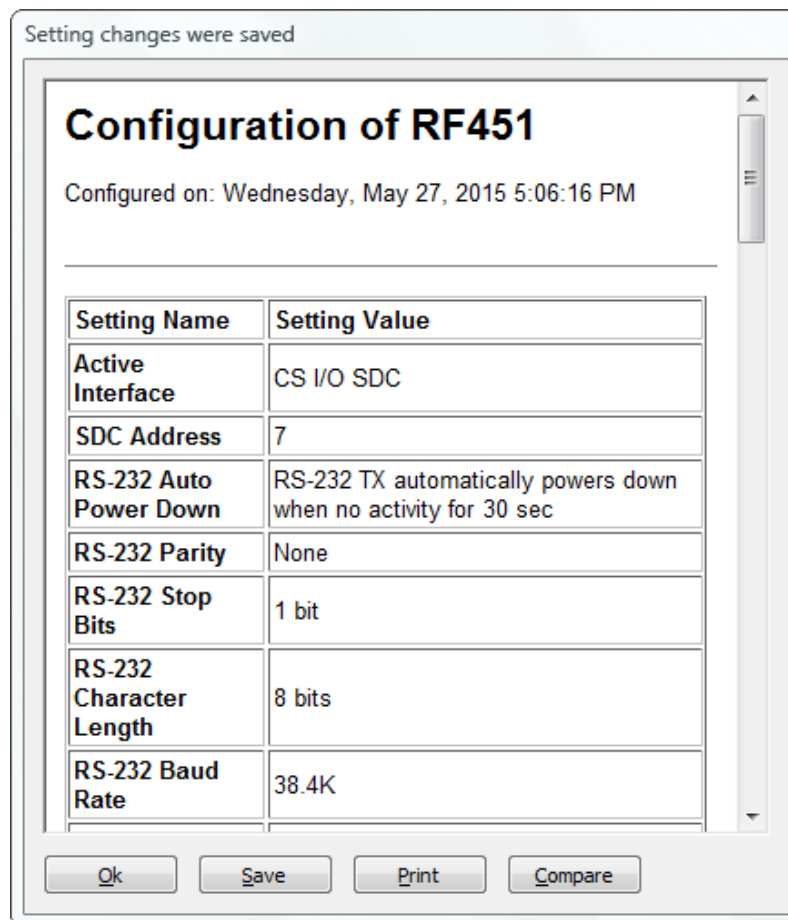

FIGURE 7-3. DevConfig RF451 Summary Screen
*DevConfig* makes applying the same settings to multiple devices easy. Once settings are configured for one device, click **Apply**; a summary screen similar to FIGURE 7-3 will be shown. Click **Save** to save a configuration file. This file can then be used to load the settings into another RF451. Click **Read File** to load the settings in *DevConfig*. Then click **Apply** to load the settings into the RF451.